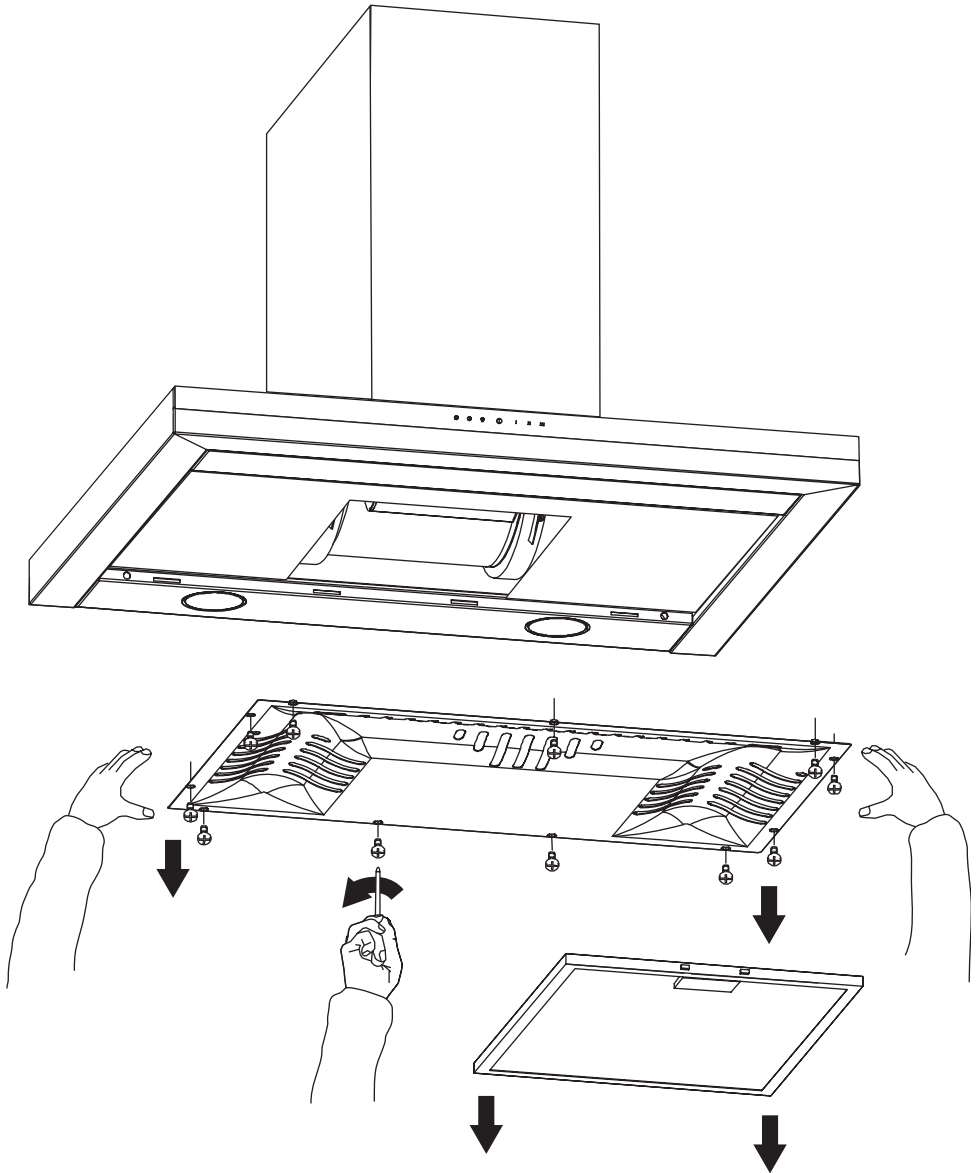

Fig.4
④ Attach hood to wall
- Remove filters and easy clean plate from hood as shown in Fig.4.